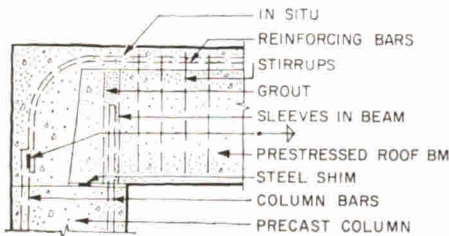
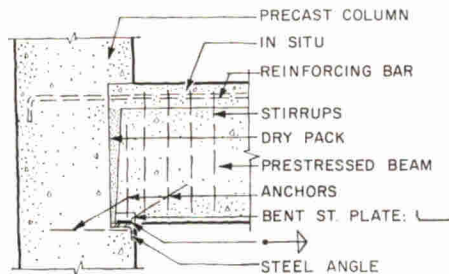
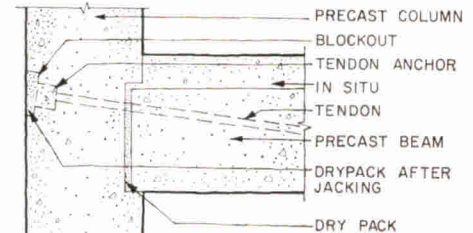

Figure 4
Figure 5
Figure 6
*Figure 4* is a simple but effective detail for a roof beam-to-column connection in which the interior column bars project upward into sleeves of the beam, and the sleeves are filled with grout. Bent reinforcing bars placed over the ends of the beams are welded to the exterior column bars. Space over the beam and column is filled with in-situ concrete. The roof slab may be cast-in-place or precast. *Figure 5* shows connection for floor beams in multi-story buildings. Beam seat is a steel angle anchored in the column. Steel plate in the beam is welded to the angle bar after beam is erected. Reinforcing bar in column projects inward over the beam to develop a negative bending moment in the joint. Careful analysis is required for concentrated bearing stresses and moments and shears in the members. *Figure 6* shows the beam joined to the column by post-tensioning. This method is particularly effective for beam spans up to 70 or 80 ft. Space at the end of the beam is drypack grouted